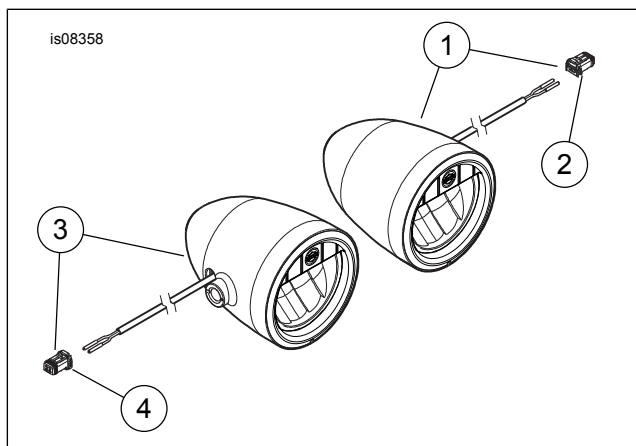

Figure 1. Service Parts, Engine Guard Mounted LED Bullet Fog Lamp Kits For Inboard Mounting As Shown
**NOTE:** Facing the fog lamp lens, with the Bar & Shield logo at the top, lamps are identified as "left" or "right" based on direction of wire lead exit from the lamp housing, as if the lamps were mounted **outboard** of the engine guard. Harley-Davidson recommends **inboard** mounting of engine guard fog lamps. However mounted, the Bar & Shield logo **must** appear at the top of the lens. See Figure 1.
See Figure 1 and Table 1.